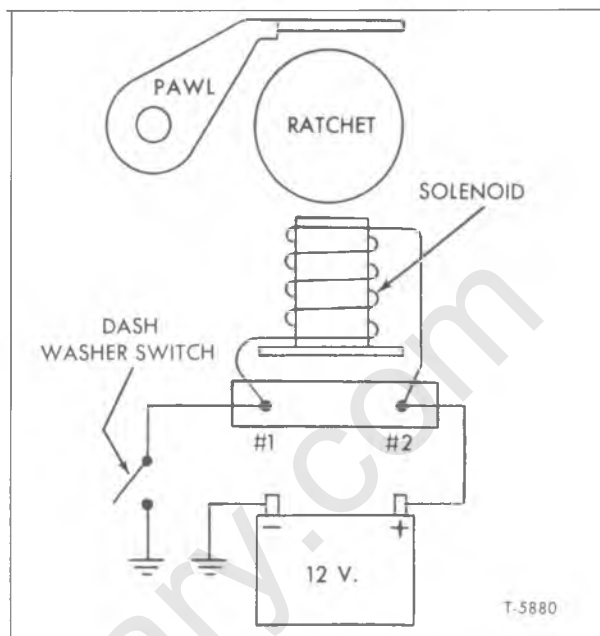

Figure 17—Checking Washer Solenoid
(Refer to Fig. 17)
3. If all items in Step 2 check out, start wiper motor only, then push washer button and listen for "click" as washer solenoid pulls in. If no "click" is heard, check for 12 volts at terminal No. 2 (fig. 17). No voltage indicates defective wiring. If "click" is heard, proceed to Step 5.
4. If correct voltage was found in Step No. 3, connect a jumper wire from washer terminal No. 1 to ground (fig. 17) and operate wiper. If washer relay "click" is heard and pump functions correctly, a defective dash switch or an open circuit between washer pump and dash switch is indicated - "No Click" indicates an open pump solenoid.
2. Check relay coil as follows: Connect 12 volt supply to washer terminals (fig. 17). Observe if solenoid plunger pulls in. Failure of solenoid plunger to pull in indicates an open solenoid coil or poor solder connections.